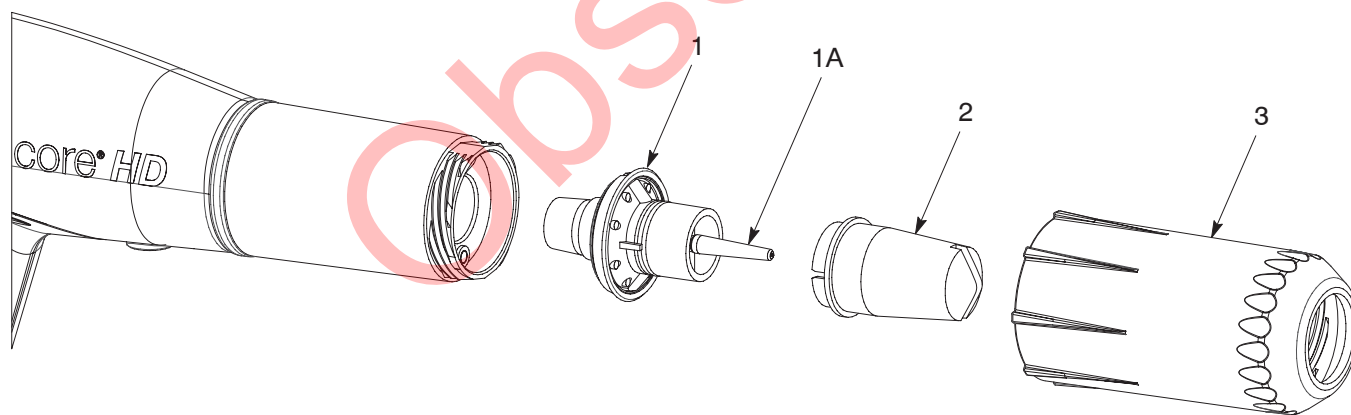

Figure 4-1 Changing a Flat Spray Nozzle
2. See Figure 4-1. Unscrew the nozzle nut (3) counterclockwise.
3. Pull the flat spray nozzle (2) off the electrode assembly (1).